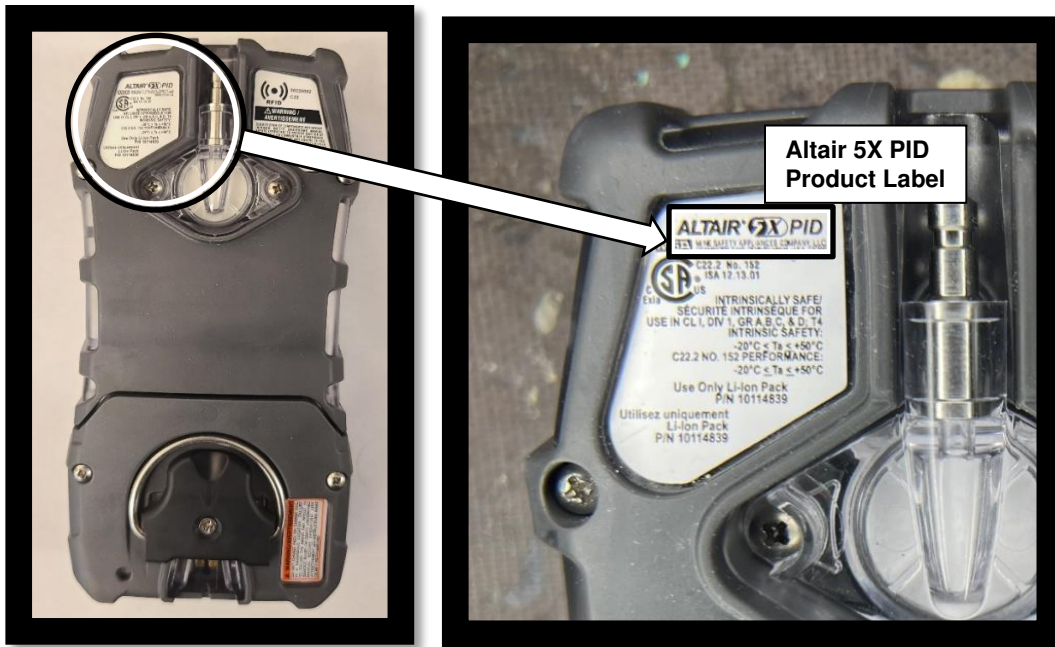

Figure 1 – Altair 5X PID Product Label
1. Reference the product label found on the back of the housing (Figure 1)